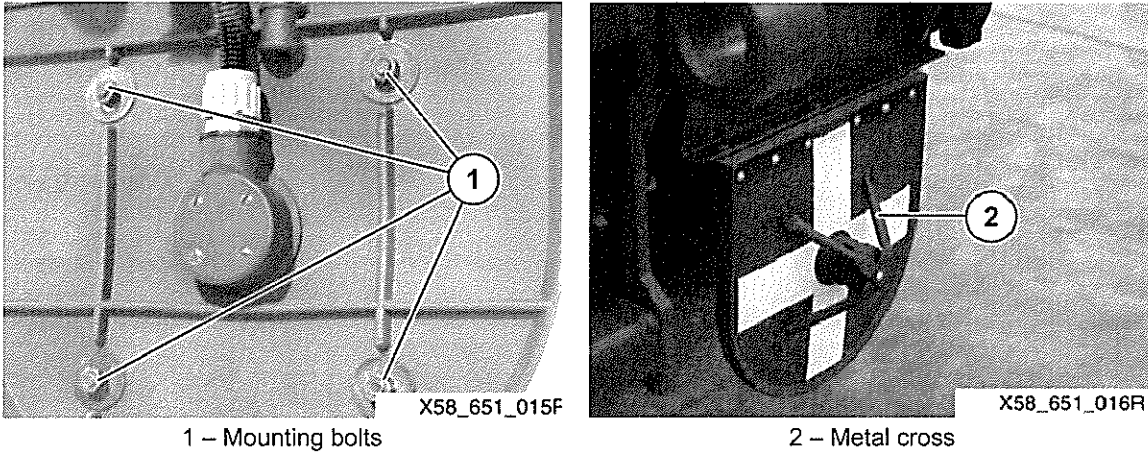

Fig 24 Replacing the convoy light
63.1 Refer to Fig 24. Remove the mounting bolts (1) and remove the metal cross (2).